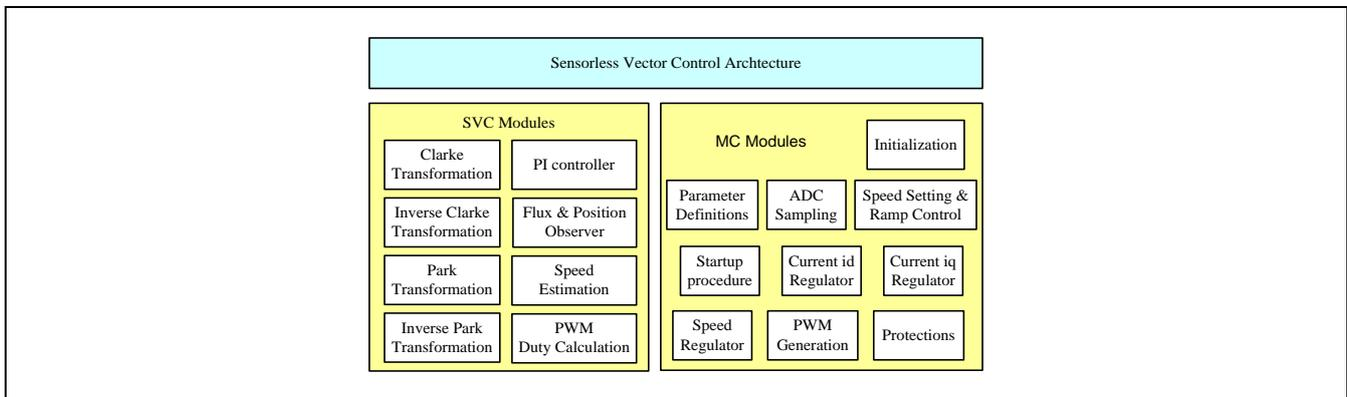

Figure 6 Software architecture of RX210 SVC
- ❖ The software is modularized according to the SVC block diagram (as shown in *Figure 6*);
RX210 SVC algorithm is implemented with the complete C code in the standard modules. The overall software architecture is shown in *Figure 6*.